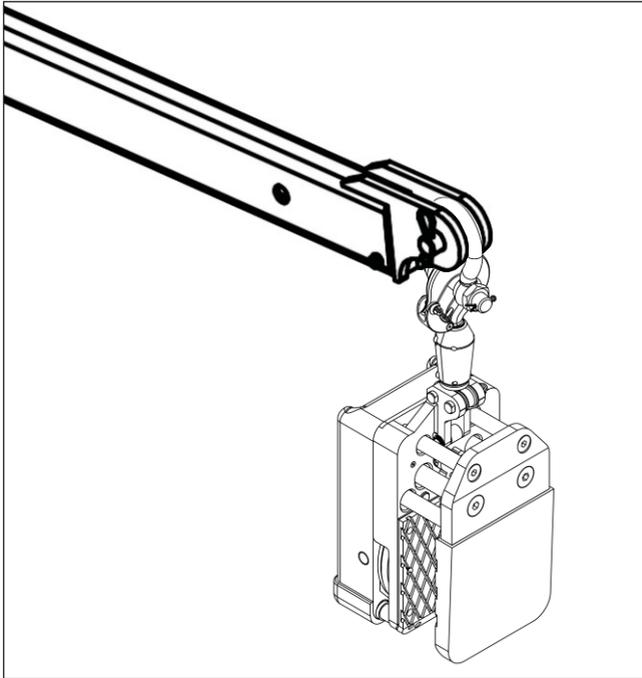

Figure 1.1
**Step 1:** Hook the Stone Crab Lifter Automatic to a forklift boom or to a crane hook (Figure 1.1).